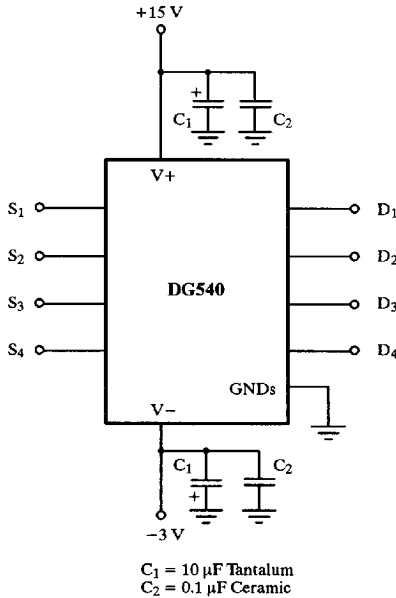

Figure 7. Supply Decoupling
- (1) Decoupling capacitors should be incorporated on all power supply pins (V+, V–). (See Figure 7.)
- (2) They should be mounted as close as possible to the device pins.
- (3) Capacitors should have good high frequency characteristics – tantalum bead and/or monolithic ceramic types are adequate.